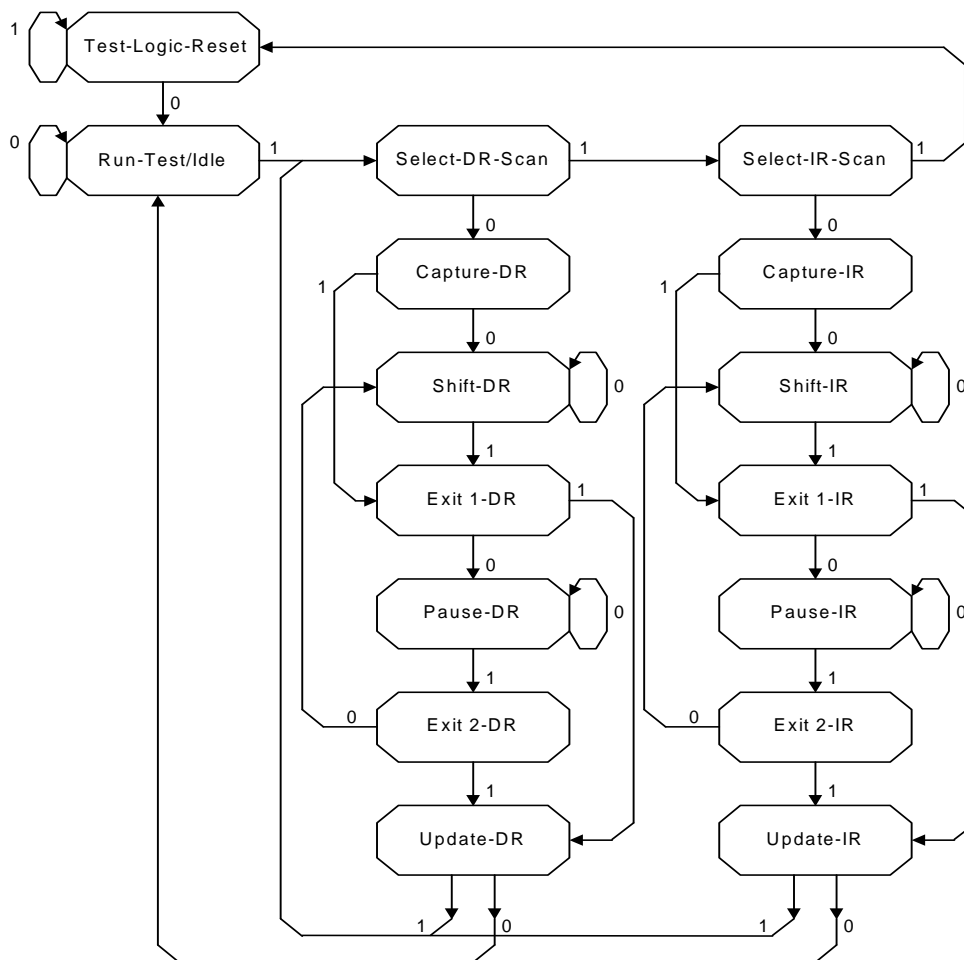

Figure 3.2.6 TAP controller state transition diagram
The state transition diagram of the TAP controller is shown in Figure 3.2.6. Each arrow between states is labeled with a 1 or 0, indicating the logic value of TMS that must be set up before the rising edge of TCK to cause the transition.
The following paragraphs describe each of the controller states. The left vertical column in Figure 3.2.6 is the data column, and the right vertical column is the instruction column. The data column and instruction column reference the data register (DR) and the instruction register (IR), respectively.